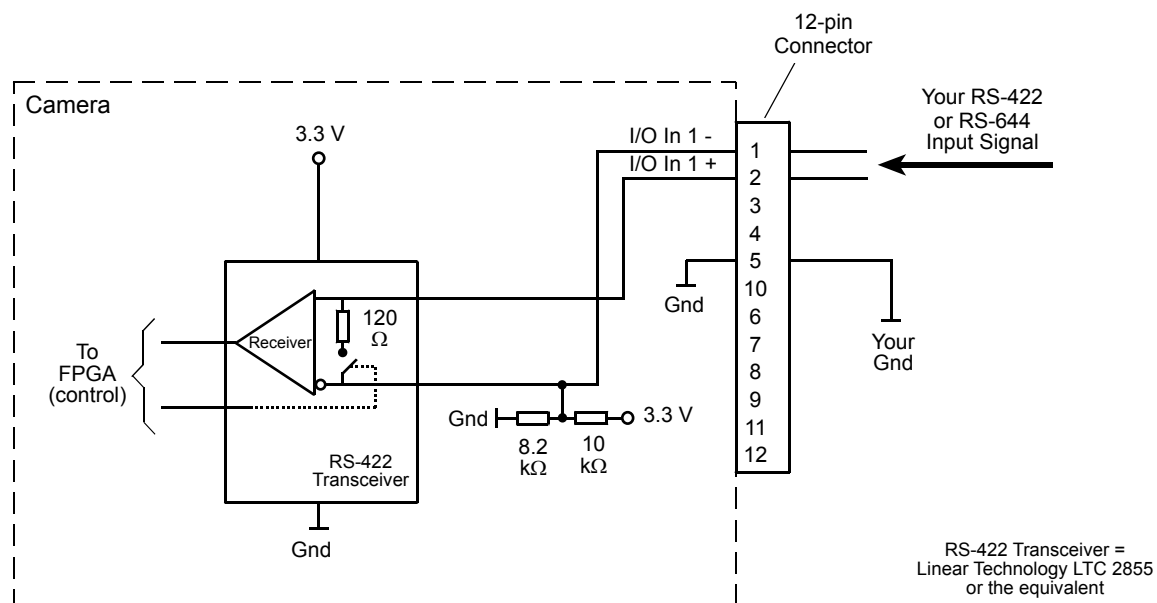
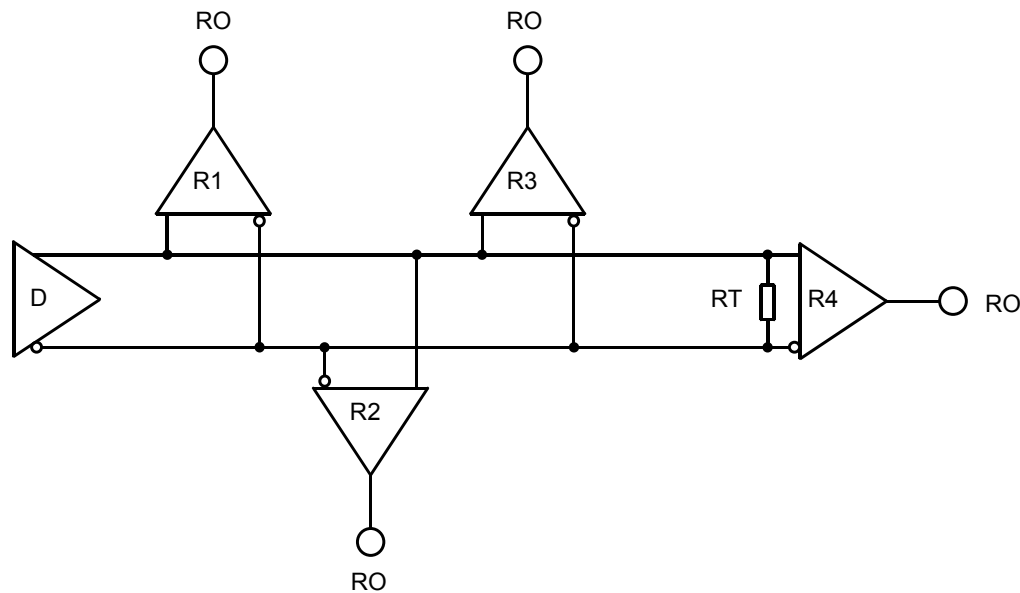

Fig. 19: Inputting RS-422 or RS-644 Signals
Fig. 20: RS-422 Interface Circuit Including Four Receivers as an Example
As shown in Fig. 19 and in the I/O schematic at the beginning of this section, each input is designed to receive an RS-422 signal. For the camera's I/O circuitry to operate properly, you must supply a ground as shown in Fig. 19.
The RS-422 standard allows devices to be used with a bus structure to form an interface circuit. So, for example, input line 1 on several different cameras can be connected via an RS-422 bus as shown in Fig. 20.
The separations between receivers and bus should be as small as possible. The bus must be terminated by a 120 ohm termination resistor (RT). Each RS-422 input on the cameras includes a switchable 120 ohm termination resistor as shown in Fig. 19. When a camera input of the last receiver in the bus terminates the bus (as shown in Fig. 20.: R4), the termination resistor on that input should be enabled. You should not use multiple termination resistors on a single bus. Using multiple termination resistors will lower signalling reliability and has the potential for causing damage to the RS-422 devices.
For the camera's I/O circuitry to operate properly, you must supply a ground as shown in Fig. 19.